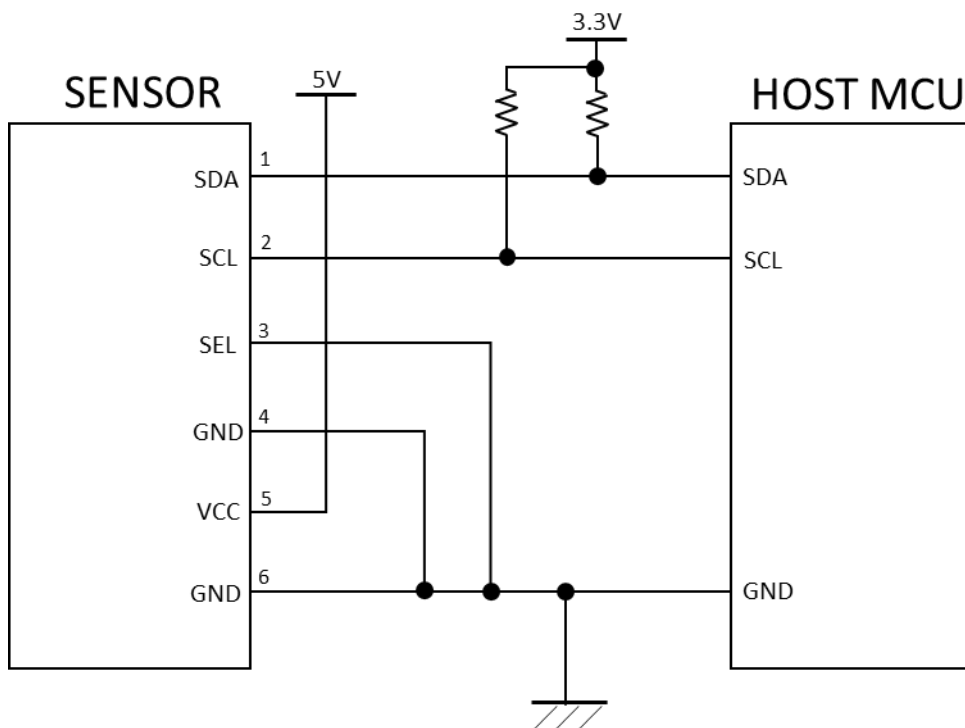

Fig. 7. I²C出力の接続例 (Example connection of I²C output)
- SCL and SDA terminals should be connected to external pull-up resistors (e.g. 10k Ω) as shown in Fig.7 above.